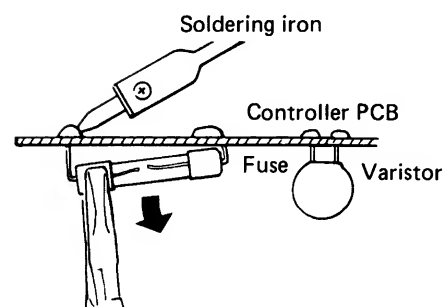

Fig. E-11
2. Pull out the fuse at the metal clasp by a pair of pliers while heating the soldered leads on the back side of the controller PCB with a soldering iron (30W or 60W). Fig. E-11.